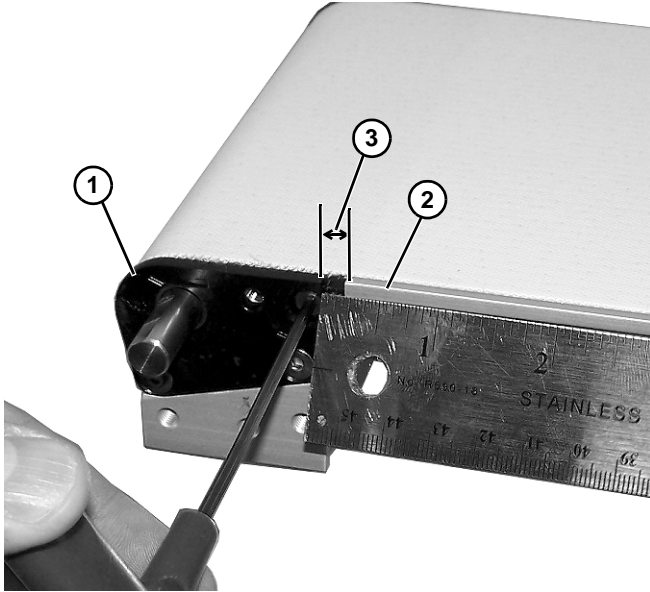

Figure 25
- Adjust head plate assembly so the edge of the drive tail plate (**Figure 25, item 1**) is separated from the end of the conveyor frame (**Figure 25, item 2**) by 0.19" (4.8 mm) (**Figure 25, item 3**), and tighten screws (**Figure 25, item 2**) to 12 in-lb (1.4 Nm).